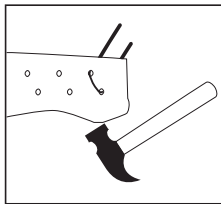

Figure 2
3. Place the blade on a flat, stable surface. The end of the blade must extend over the edge so strands can hang down. Gently tap the line flat with a hammer to secure it into the holes. See Figure 2